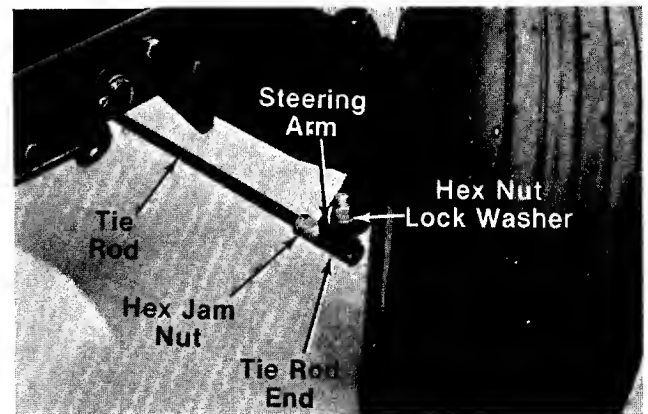

FIGURE 21.
1. Remove the hex nut and lock washer, and drop the tie rod end from the wheel bracket. See figure 21.